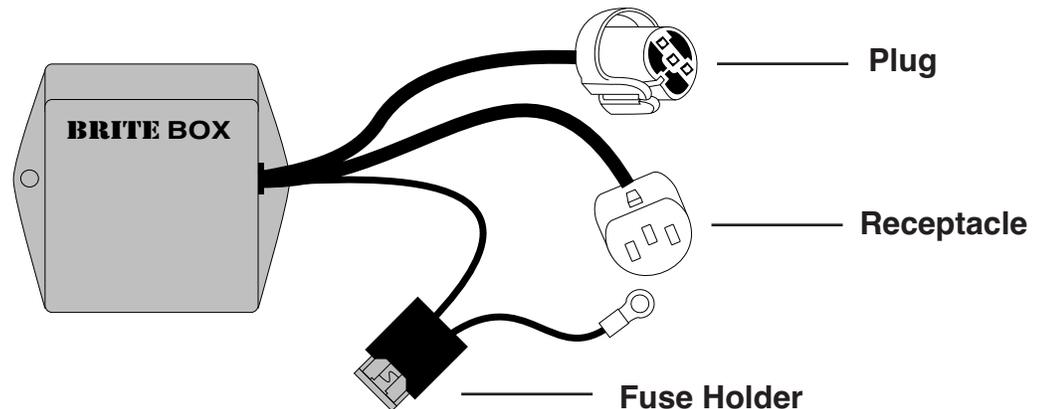

FIGURE 1
Remove two (2) plastic clips as shown in FIG 1. that secures rubber trim piece to vehicle. Use Philips screwdriver to unscrew center section. When center section is removed, clips will pull straight out .
⇒ Remove three (3) 10mm bolts in positions shown in FIG 1.
Figure Reference: Figure 1